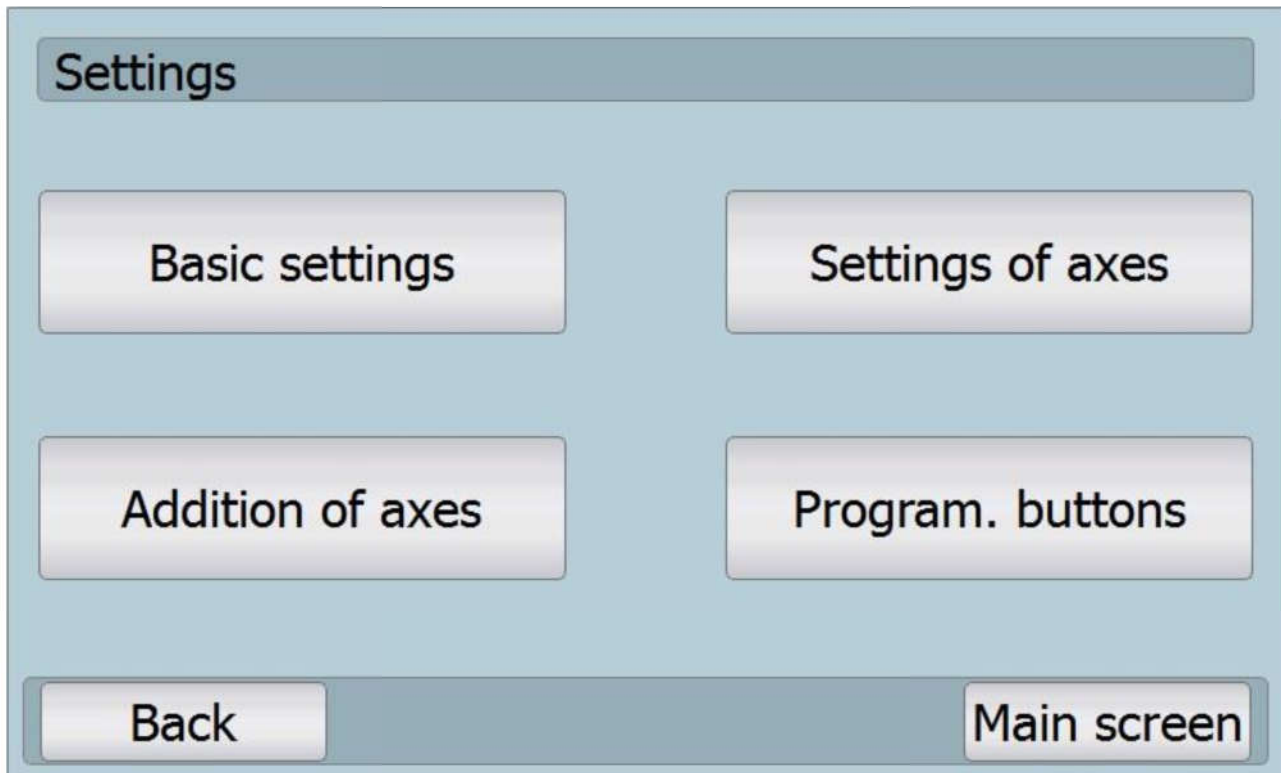

Fig. 27: Setting
- ⑩ It displays four options for the application setting (see fig. 27: Setting).